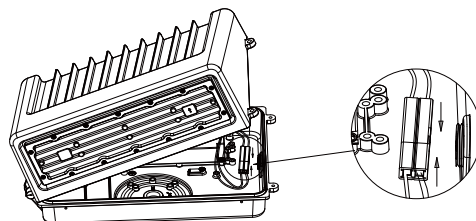

Fig. 1-5A
5. Connect the quick connect terminal, then screw the fixture with bottom plate.(Fig.1-5A&B)